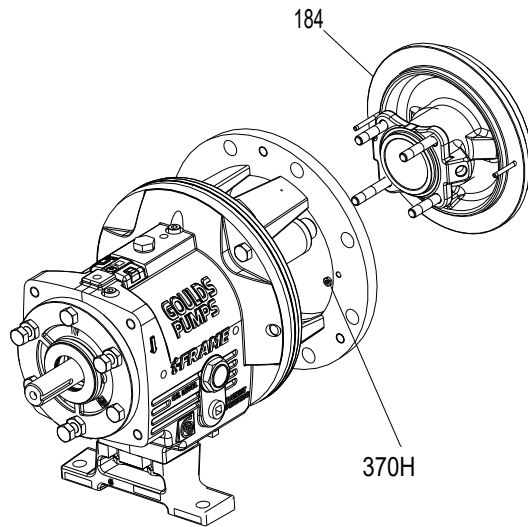

Figure 99: Assemble seal-chamber
- a) Assemble the cover to the frame/frame adapter without the seal and gland. See Figure 99: Assemble seal-chamber on page 114.